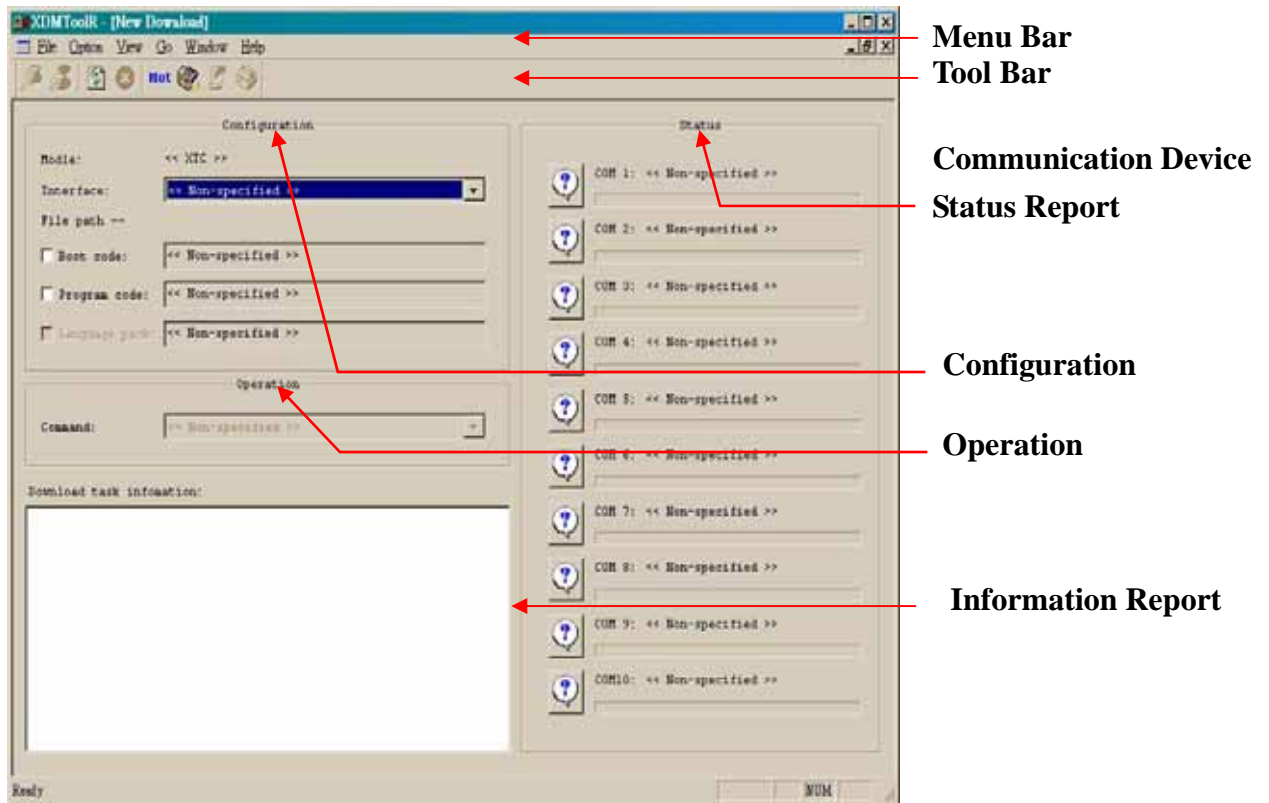

Fig.2.1. The user-defined file system manager view.
1. Click “View”->”New Download” menu item and the main view would be showed such as Fig.2.1.